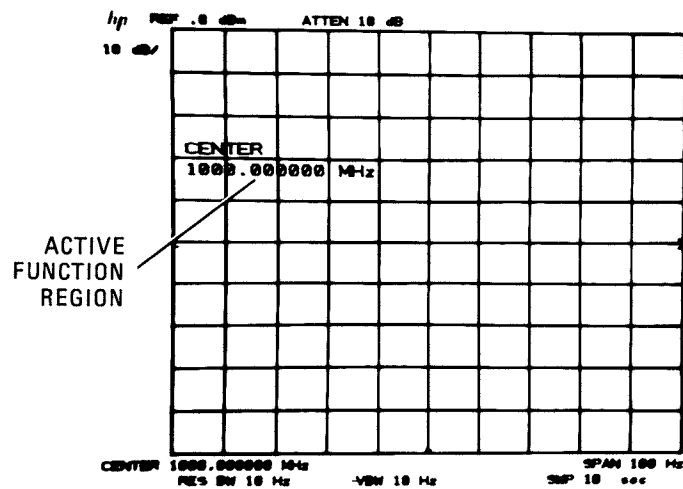

Figure 5-16. 8566A CRT Display for Final Display Adjustments
2. Key in **FREQUENCY SPAN** 100 Hz, **CENTER FREQUENCY** 1 GHz, TRACE A **BLANK**. Trace should be blanked and CRT annotation in the active function region should appear similar to Figure 5-16.